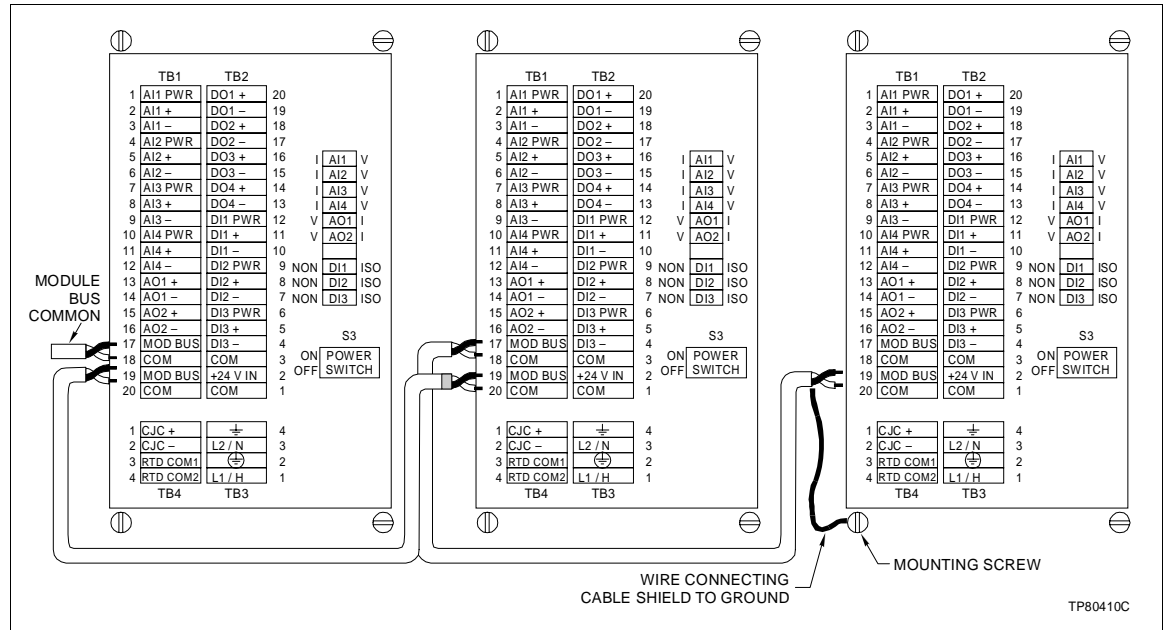

Figure 2-16. Peer-to-Peer Communications Wiring Connections
5. Connect multiple Type SLC controllers via the module bus connections using Figure 2-16 as a guideline for terminal block assignments. Type CBE01 Module Bus Extenders must be used if the module bus length is more than 10 meters (32.8 feet) or where ground potentials cannot be avoided. Total maximum module bus distance with the Type CBE01 extender is 610 meters (2,000 feet). Refer to Figures 1-4 and 1-5 for location of the module bus extenders in the communication loop.
NOTE: A power switch, S3 (Fig. 2-16), is located on the termination board to allow the external power supply (AC or DC) to be disconnected from the controller without removing the power supply wiring.